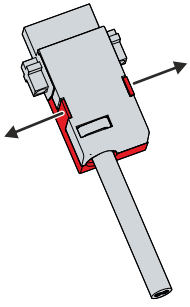

Fig. 17: Disassembly of the strain relief housing
1. Use your fingers to bend the latching lugs on the lower part slightly outward (see Fig. 17).